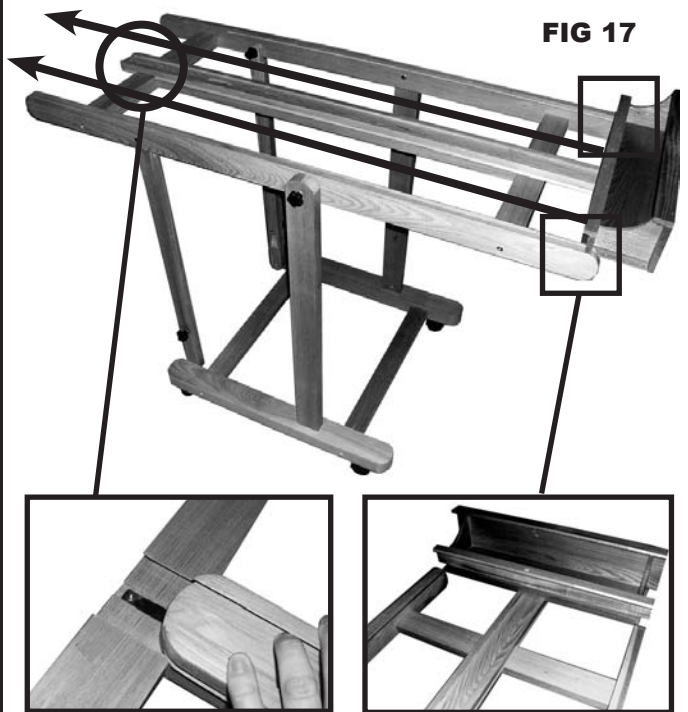

FIG 17
STEP 17. Loosen all knobs to lower the easel into the horizontal position. Once in flat position, tighten all knobs to secure. See FIG 17. This step involves inserting and sliding the Channelled Center Column (4) and Material tray (5) assembly through the upper cross member (indicated by the circle) and guiding the material tray corners into the channelled Sides (indicated by the squares). See FIG 17. See inset photos below for detail.